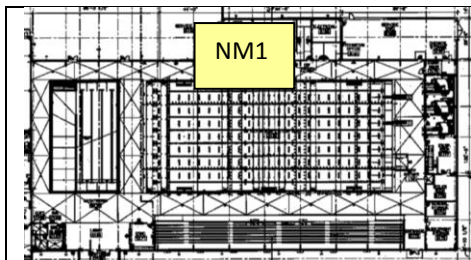

Figure 4-2.3 - Natatorium 1st Floor Mechanical Room Location
The Natatorium is serviced by two (2) mechanical rooms as shown below in **Figures 4-2.3 - Natatorium 1st Floor Mechanical Room Location** and **4-2.4 - Natatorium 2nd Floor Mechanical Room Location**: